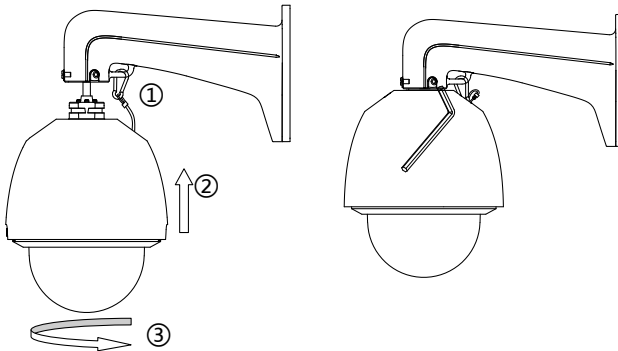

Figure 1-16 Install the Speed Dome
1. Hang the safety rope to the speed dome and then hook to the mount as shown in Figure 1-16(left).
5. Fasten the two lock screws with the Allen wrench, as shown in Figure 1-16(right).